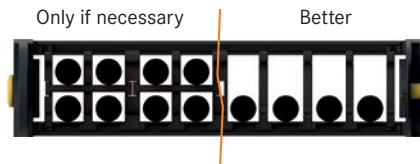

Fig. 5
5) If possible, all cables should be placed in one single layer. This will improve the operating life time of the system. Multi-layer separators are difficult to assemble, maintain and are more expensive (Fig. 5)